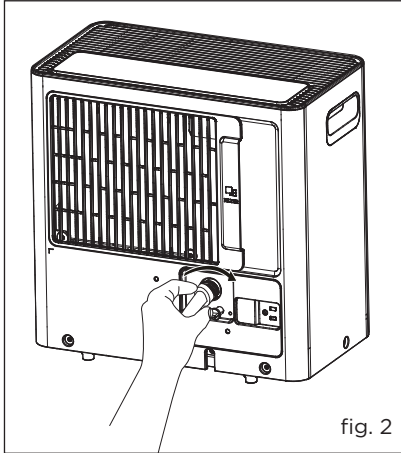

fig. 2
- d. Screw the garden hose onto the threaded portion of the drain connector. (fig.2)